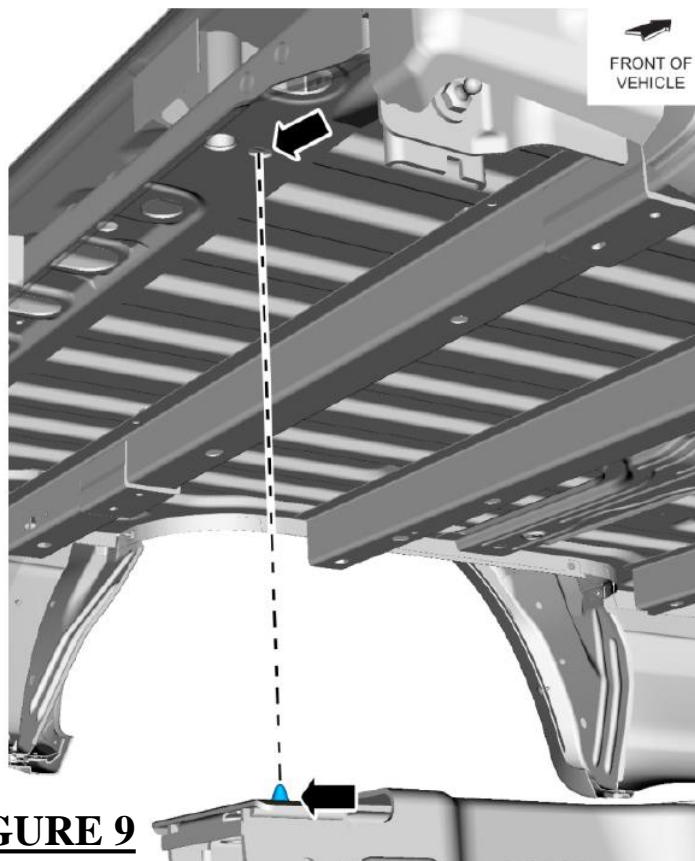

FIGURE 9
- Ensure the locating pins shown in figure 9 are properly installed to both the pickup frame and pickup bed to prevent misalignment.